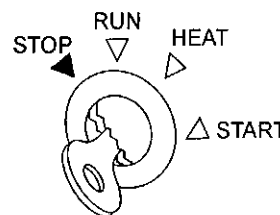

Figure 28. Starter Switch (Stop Position)
- Place the starter switch key (Figure 28) in the **STOP** position and remove the key. Place fuel cock lever in the **OFF** position.